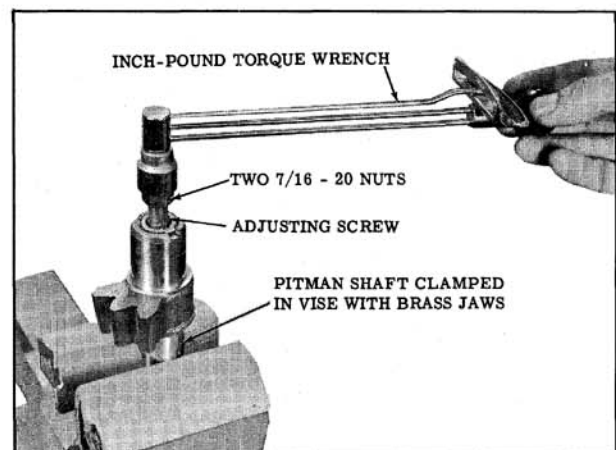

Fig. 8-58 Checking Adjusting Screw Torque
2. Using a 5/8" socket and an inch-pound torque wrench, measure the torque required to turn the adjusting screw. (Fig. 8-58) Torque reading should be 1 to 15 in. lbs.